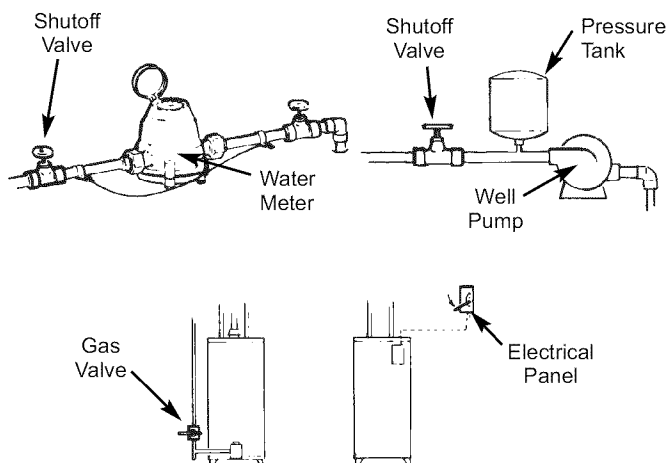

FIG. 7
1. Close the shutoff valve on the house main water pipe, near the water meter or pressure tank, to turn off the water. See Fig. 7.
2. Shut off the gas or electric supply to the water heater. See Fig. 7.